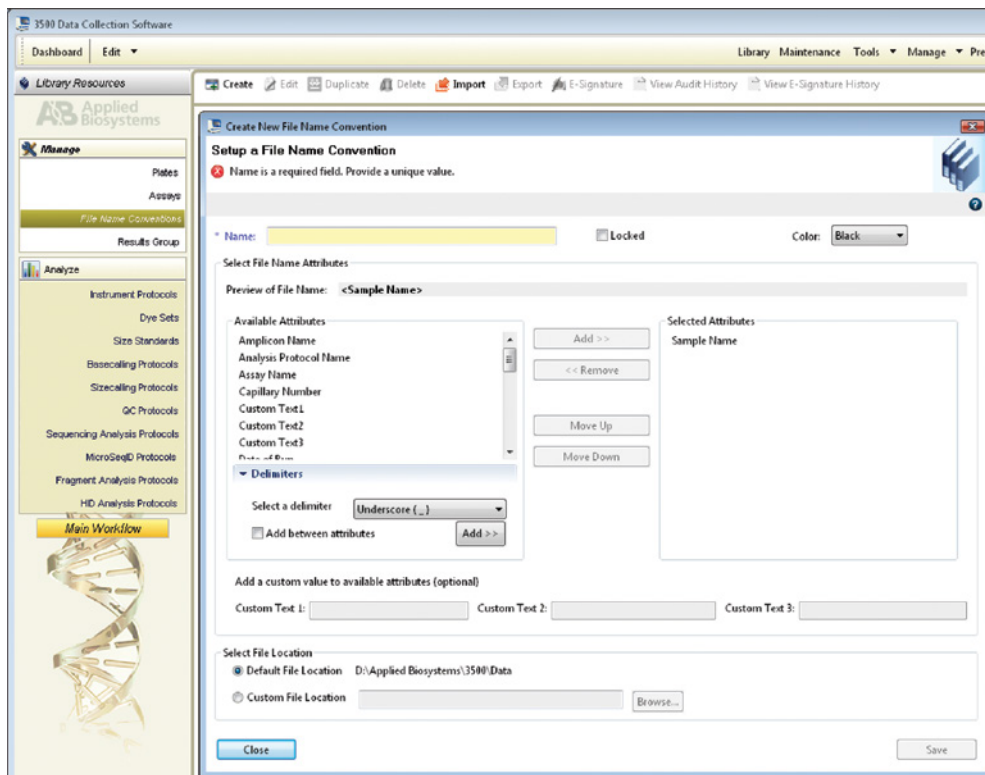

Figure 6. The ‘Create New File Name Convention’ window.
2.e. To create a new File Name Convention (Figure 6), navigate to the Library. Select **File Name Conventions**, and then select **Create**. Alternatively, a previously created File Name Convention may be used.